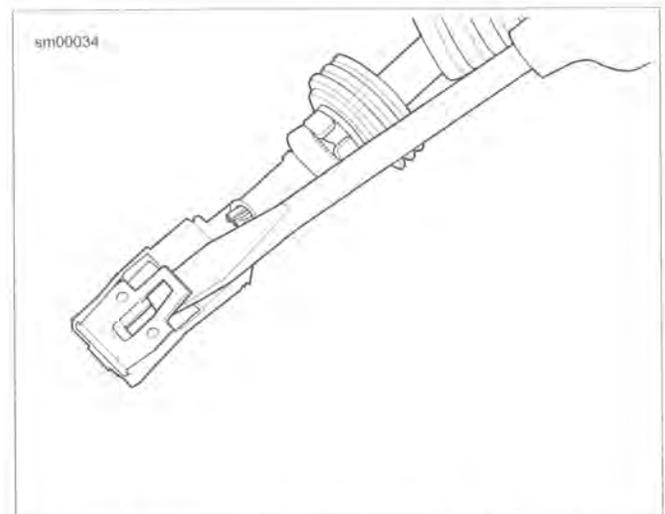

Figure A-20. Delphi 800 Metri-Pack Sealed Main Fuse Housing: Bend Tang
1. See Figure A-20. Carefully bend tang outward away from the terminal body.